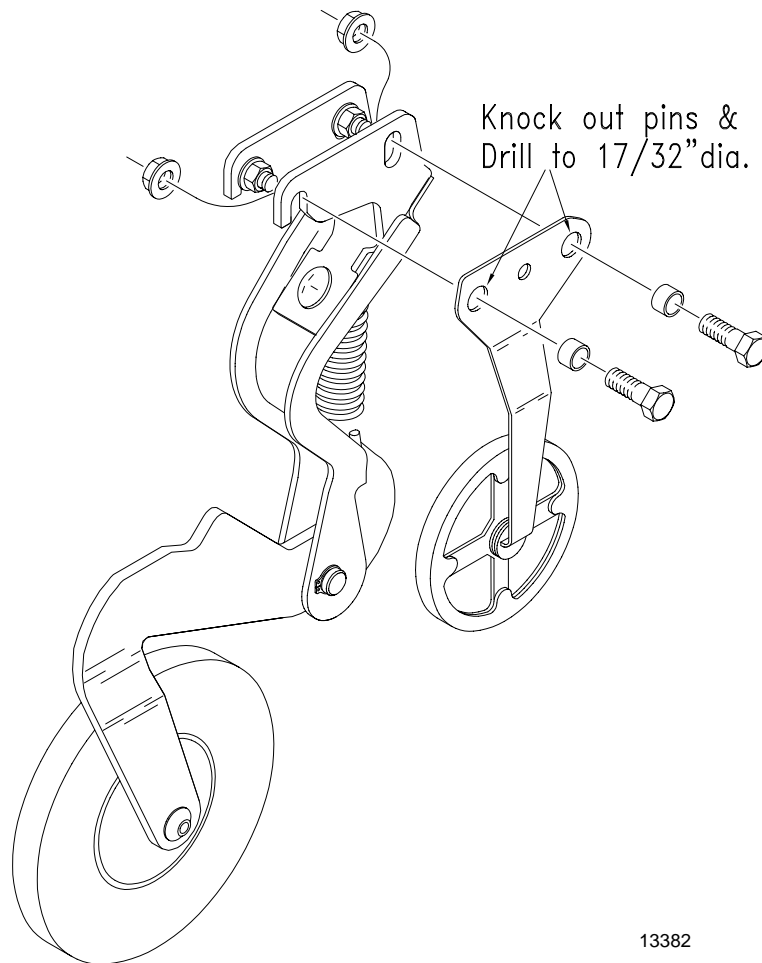

Figure 9
6. Knock out the pins on the rotary scraper and drill the holes out to 17/32" diameter, see Figure 9. Do this to both scrapers.